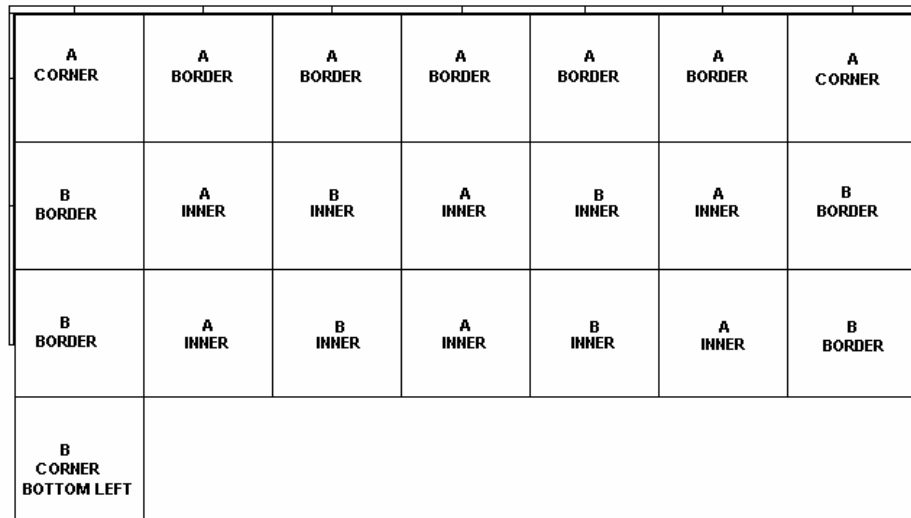

Figure 24
21. Once you get to the desired length or width you will use a “B CORNER BOTTOM” to start your last row. (Figure 24)